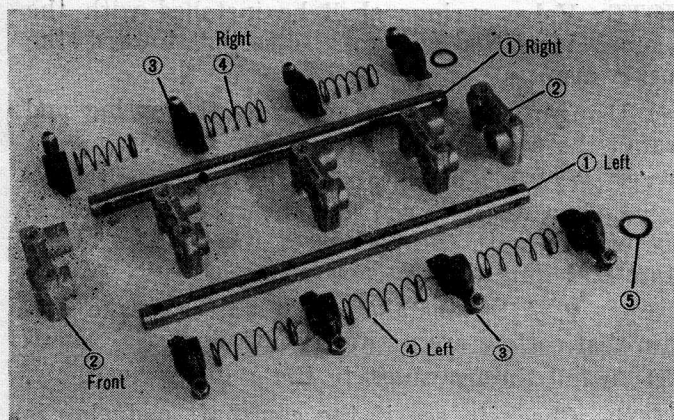

Fig. 61 Assembling the Rocker Arm Shaft Assembly
(6) Rocker Arm Shaft Assembly (Figs. 61 and 62)